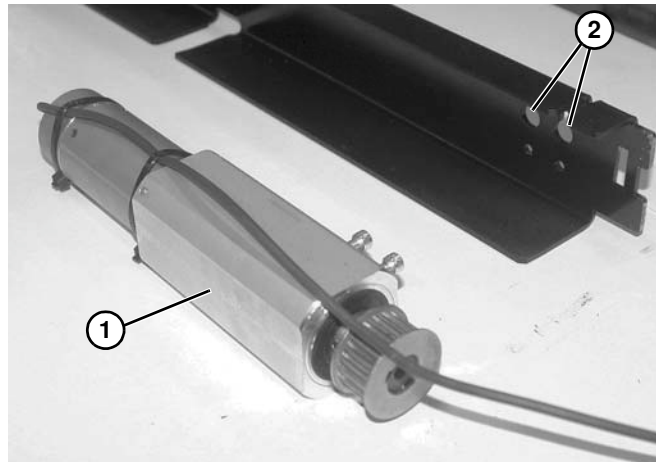

Figure 206
14. Slide motor (**Figure 206, item 1**) off of slotted holes (**Figure 206, item 2**) on crossmember.